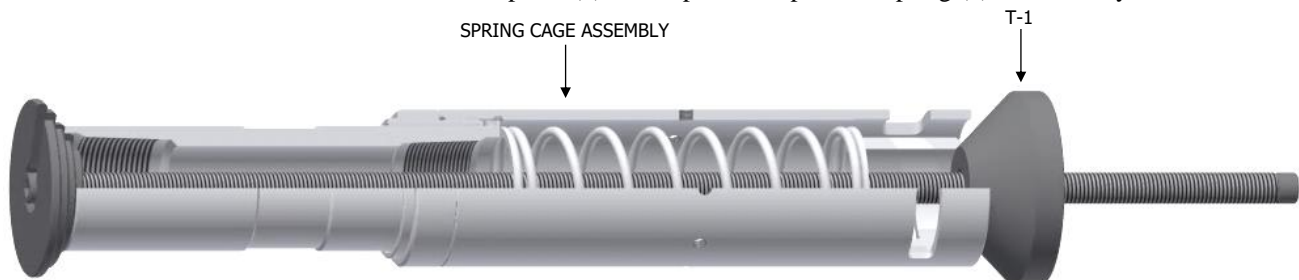

Fig. 2
K-1.1.3) Compress compression spring (4) with assembly tool (T-1) (Fig. 2).